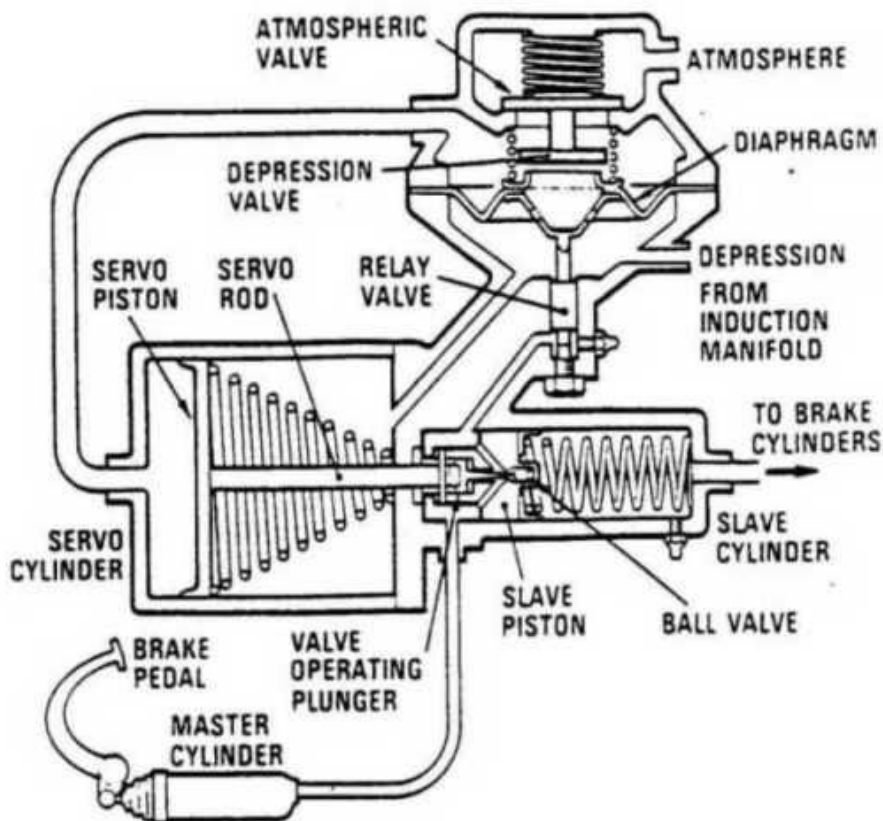

Fig 7.3 SERVO
7.5 Servo. Operation (Fig 7.3). Brakes OFF - Engine running.